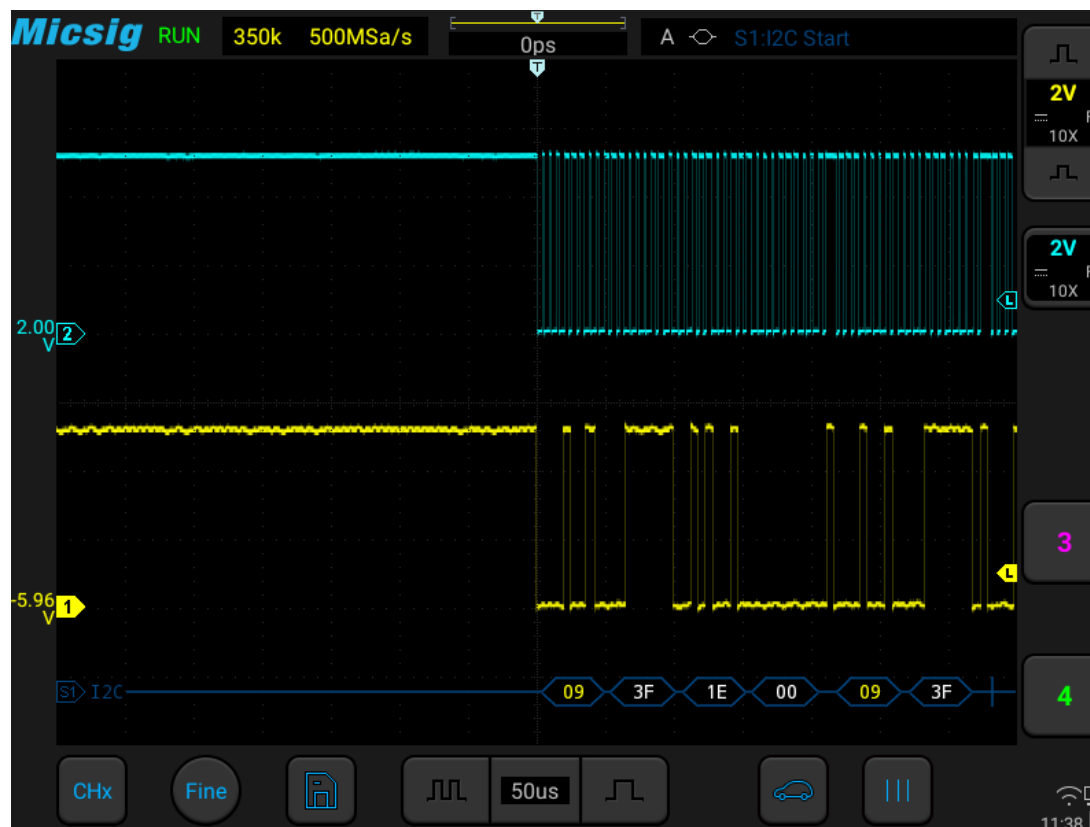

Figure 13-24 I2C Graphic Interface
- (1) Tap S1 to open the decode channel, and click S1 again to open the bus configuration menu;
- (2) Select the bus type as “I2C”, open the bus setting menu, and select the clock SCL as Ch2 channel;
- (3) Open the trigger mode configuration menu and click “Start Condition” on the touch screen.
- (4) Set the threshold level of two channels according to signal amplitude; I2C trigger graphic interface is shown in Figure 13-24: